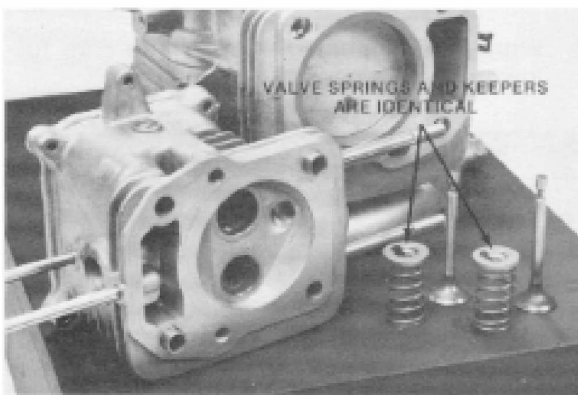

Figure 4-17
2. The valves may now be withdrawn from the head. The valve springs and keepers are identical and interchangeable. See Fig. 4-17.